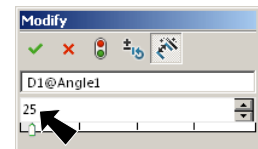

Fig. 2
Step 4. Change **Angle 25°** in the Modify dialog box and OK  , **Fig. 2**.